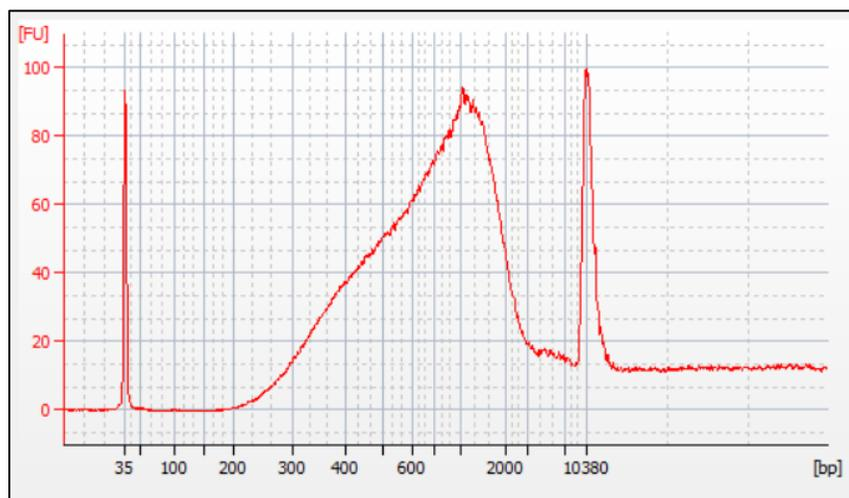

Figure 25. An electropherogram example from a library prepared from PBMC and quantified using the Agilent 2100 Bioanalyzer.
4. Use the bioanalyzer results to determine library quality and average size for qPCR. An example of a typical bioanalyzer profile for an NGS library that has been successfully purified and size selected is shown in Figure 25, below.